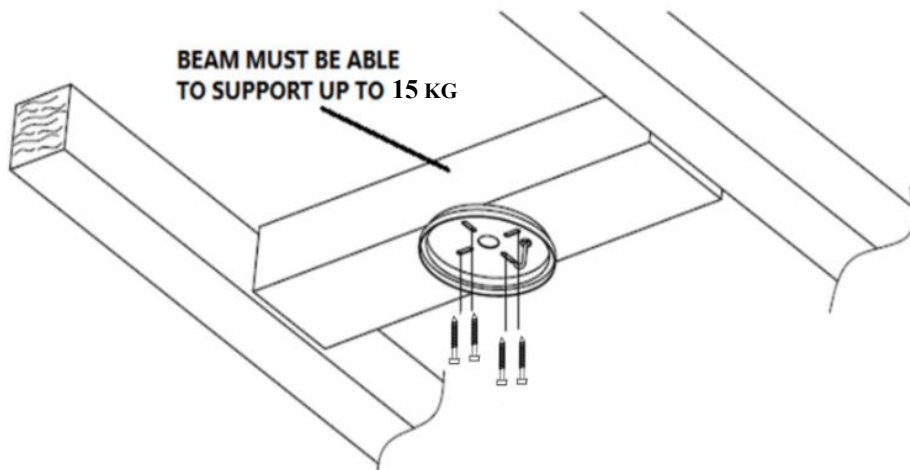

Fig. 2
- Install the hanging bracket to the ceiling joist or structure that is capable of carrying a load of at least 15kg, with four long screws provided. Ensure at least 30mm of the screw is threaded into the support. (Fig. 2)